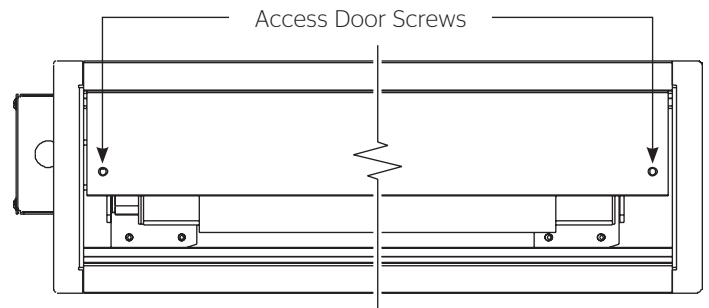

Figure 21
11. Re-install the access door. Before inserting completely, adhere the USB to CAT5 Extender to the inside of the access door out of view of the audience. Complete installation by sliding the access door into place and insert the screws into each end (Figure 21).
2. When the screen stops, turn the "up" limit knob (Figure 21) one turn counterclockwise. Test by lowering screen surface approximately two feet, then raise again. Repeat until slat bar is just in case.